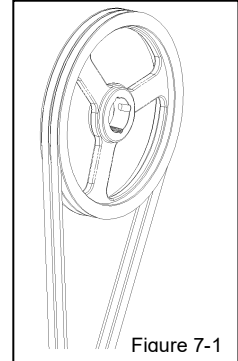

Figure 7-1
**Note:** Check the motor belt every month .If the belt loose ,tighten the screws under the motor will be fine .Figure 7-1